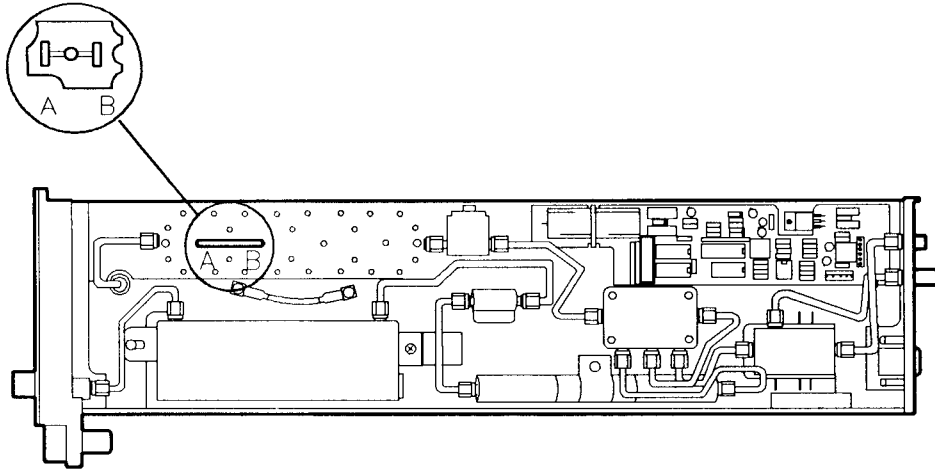

Figure 6-6. A5 Second Mixer Replacement
4. Carefully lift the A5 Second Mixer board assembly connectors (A and B) from the two connector pins extending from the module chassis. See Figure 6-6.
Note Make sure the A5 Second Mixer board assembly is oriented correctly. See Figure 6-6.
5. Reinstall the board assembly to the connector pins as shown in Figure 6-6.